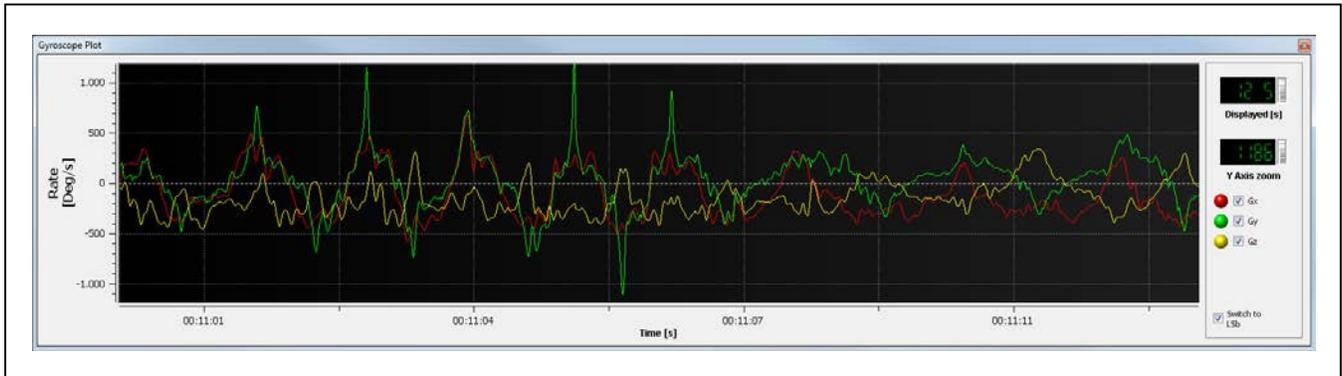

Figure 20. Gyroscope Plot
- **Gyroscope Plot:** This view shows a plot for the gyroscope data (Figure 20).